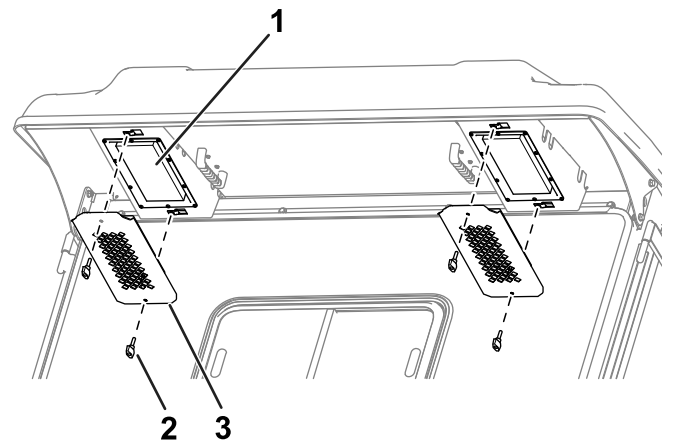

Figure 85
1. Remove the knobs and grates from the cab rear overhang (Figure 85).
4. Use the knobs and grates to install the filters into the cab (Figure 85).